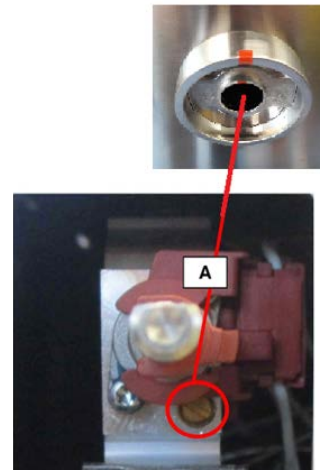
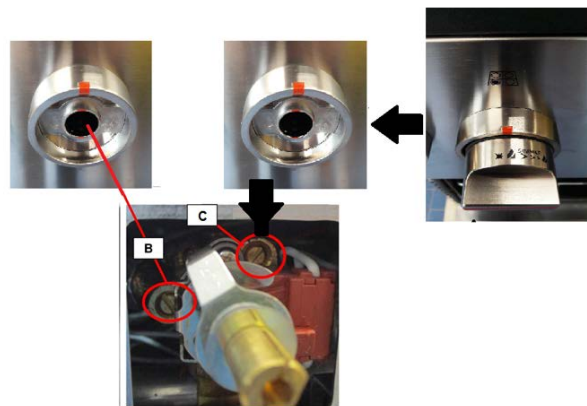

Figure 2: The burner tap with single flame
Figure 3: The burner tap with double flame
- 1) Unscrew the regulator cap. (figure2)
- 3) Insert a slender, thin-blade screwdriver into the recess behind the control knob (Figure 2 for single flame and Figure 3 double flame) and engage blade with slot in adjusting screw. (A single flame; B double flame)
**NOTE:** It is normal for slight yellow tipping of the flames to appear after a few minutes of operation using Propane (LP) Gas. Orange-colored streaks in the flame are produced from burning airborne debris; this is normal during initial start up and should dissipate within a few minutes of operation.
- 4) If the flame performance is not acceptable it may be necessary to readjust the valve screw (fig. 2 and 3 on page 34) for a burner that does not have sufficient carry-over of the flame.